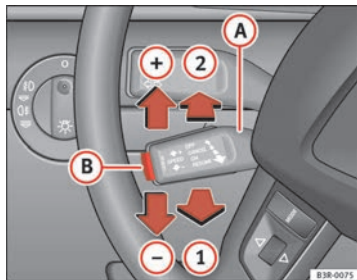

Fig. 142 Controls for the cruise control system
- Pull the lever **A** to position $\Rightarrow$ fig. 142 **1** to enable the system.
- Move the lever **A** up towards $\Rightarrow$ fig. 142 **+**.
- Move the lever **A** down towards $\Rightarrow$ fig. 142 **-**.
- You can increase the set speed in steps of 2 km/h by briefly pressing the lever **A** up towards $\Rightarrow$ fig. 142 **+**.
- You can decrease the set speed in steps of 2 km/h by briefly pressing the lever **A** down towards $\Rightarrow$ fig. 142 **-**.
If no speed was stored when the system was temporarily disabled, a new speed can be set as follows: drive at the desired cruising speed and briefly press button ⇒ page 173, fig. 142 (B) (SET).
- Move lever (A) ⇒ page 173, fig. 142 to position (2) (click stop engaged).